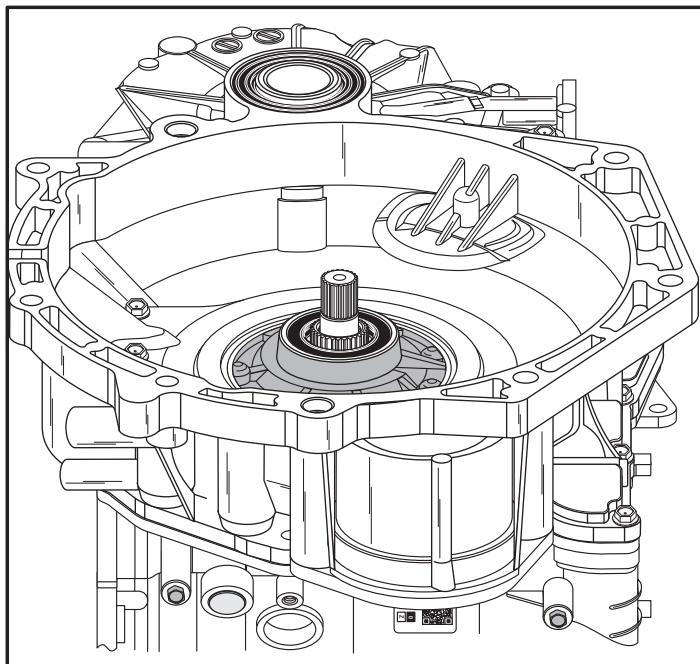

Figure 64
1. Position transaxle so that converter housing is facing up, as shown in Figure 64.